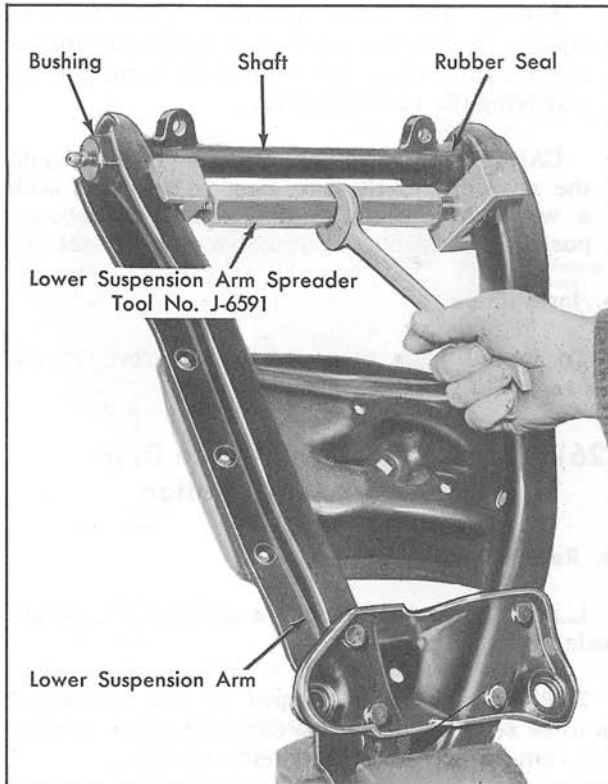

Fig. 4-13 Spreading Lower Suspension Arm
4. Install Lower Suspension Arm Spreader, Tool J-6591, between arms as shown in Fig. 4-13. Tighten the center bar finger tight; then with a wrench, tighten two additional flats.